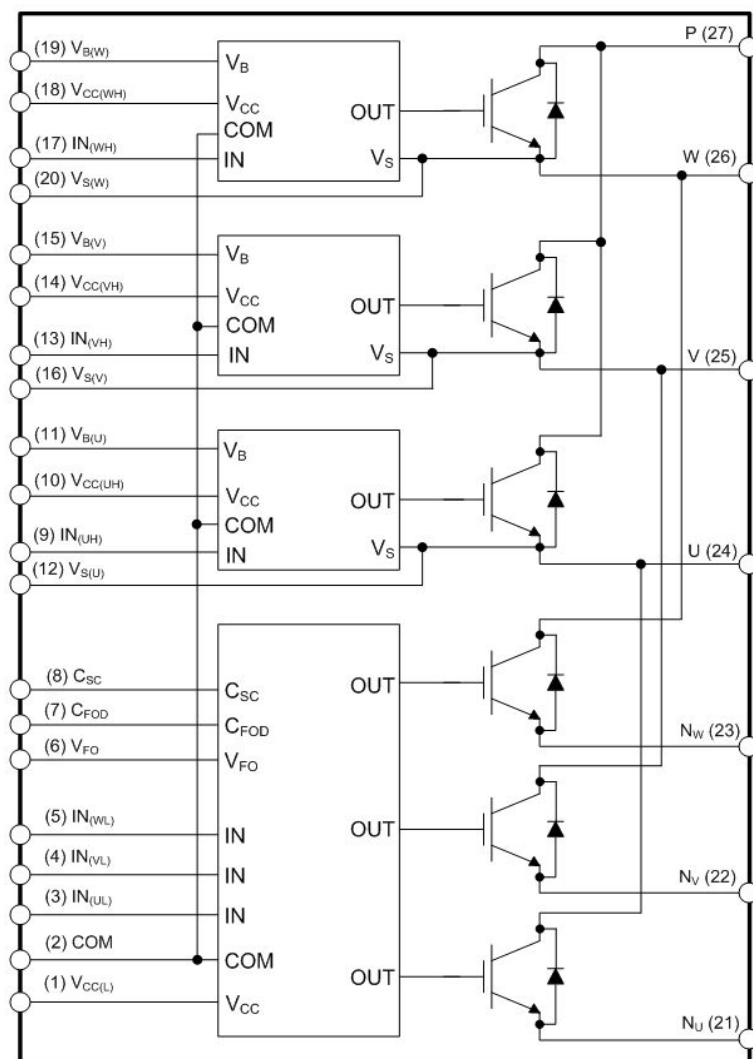

Figure 3. Internal Block Diagram
- 1200 V - 10 A IGBT inverter for three-phase DC / AC power conversion (*refer to Figure 3*)